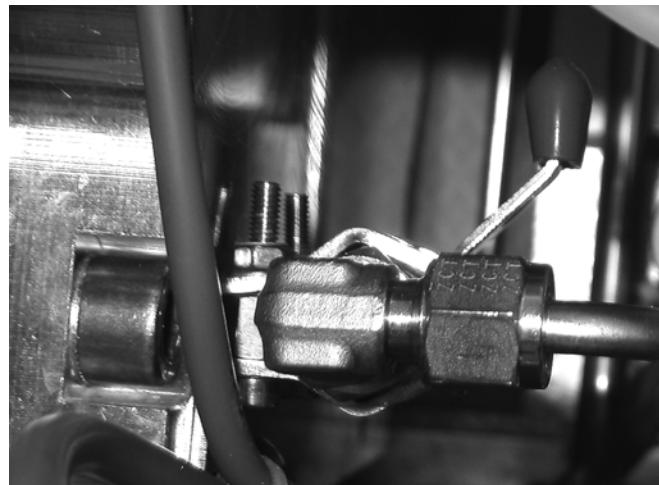

Figure 99: Gas supply line shut-off valve in closed position
18. Close the shut-off valve in the gas supply line (see Figure 99).